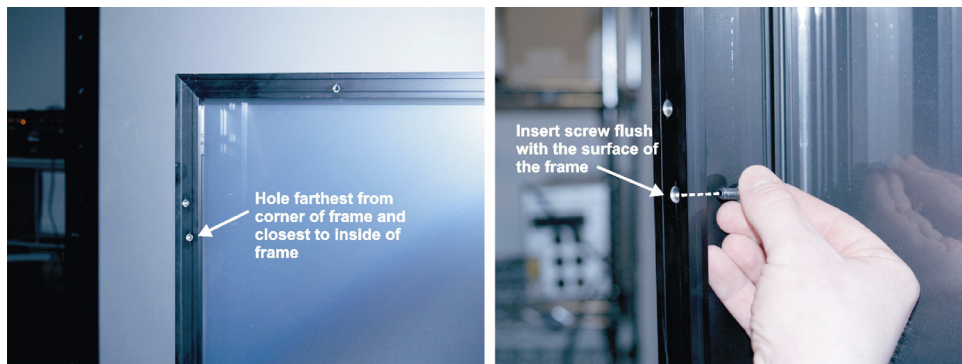

FIGURE 2-13 INSTALL DEPTH ADJUSTMENTS SCREWS
1. Add the 10 screen adjustment screws: 2 depth screws in each corner (Figure 2-13) and two height adjustment screws at the bottom. Install them so that they are flush with the inside surface of the Screen frame.